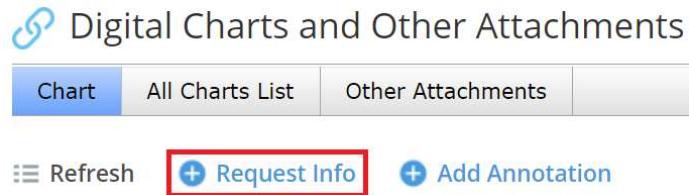

Figure 11: Navigate to Information Request
2. Click on the *Request Info* button, as seen in Figure 11 below.